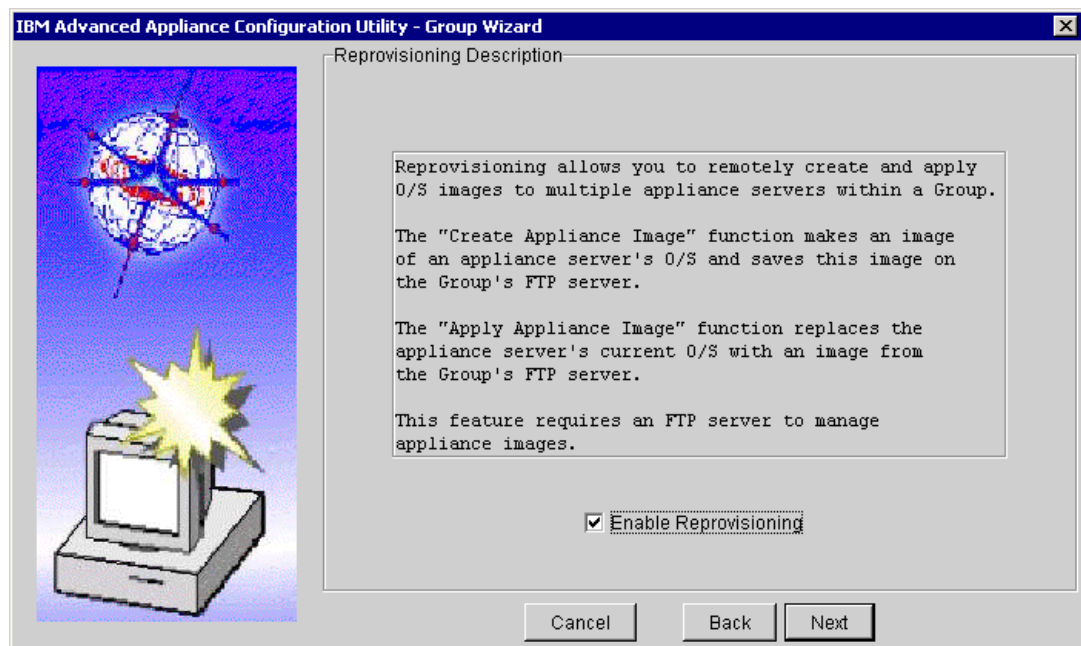

Figure 2-13 Group Settings: reprovisioning
5. Click **Next**. You will see the window shown in Figure 2-13: